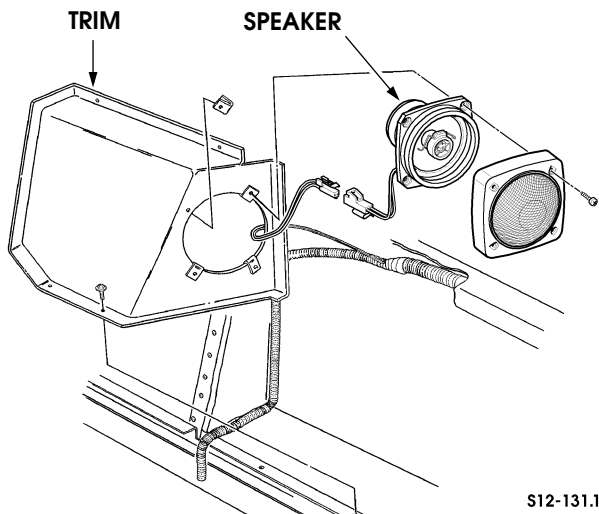

Figure 12-145: Right Rear Speaker Model 90.
6. Remove four screws, clips, cover, and right rear speaker from trim (Figure 12-145).
4. Connect two leads to right rear speaker (Figure 12-145).